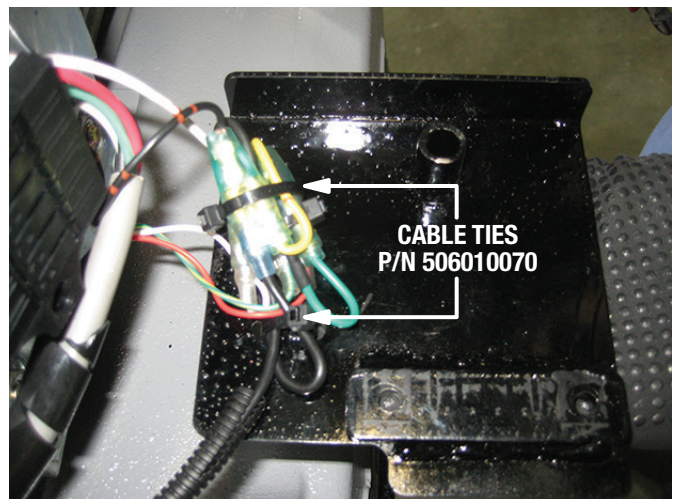

Figure 25. Secure Wiring to Electrical Panel
11. Rebundle the wiring connectors and secure them to the back of the electrical panel with cable ties (P/N 506010070). See Figure 25.